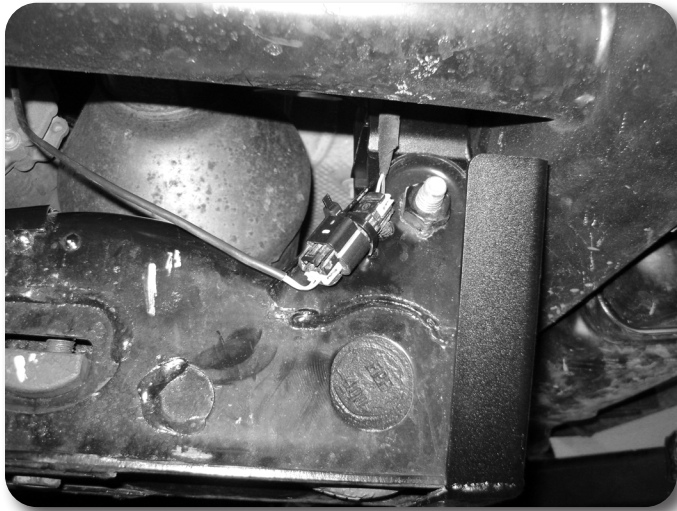

Figure 49
75. On diesel models, run the exhaust wiring harness to the back side of the cross member and fasten with a provided zip tie through the small existing hole in the cross member. Figure 49